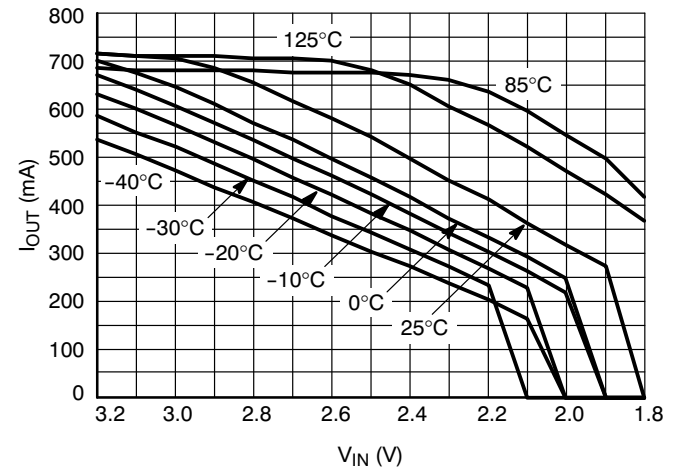

Figure 22. Output Current Capability for the 1.5 V Version
22. For output current capability for  $T_A < 0^\circ\text{C}$ , please refer to Figure 22.